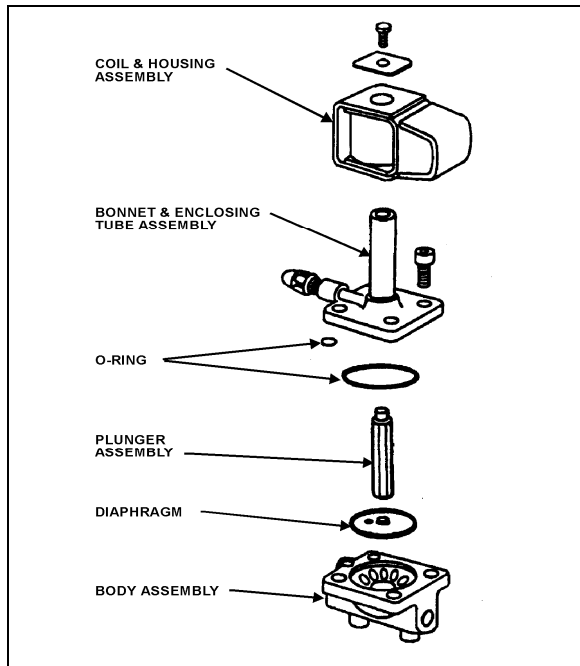

FIGURE 32: REFRIGERANT SOLENOID VALVE
3. Remove the four socket head screws which hold the body and bonnet together (Fig. 32).